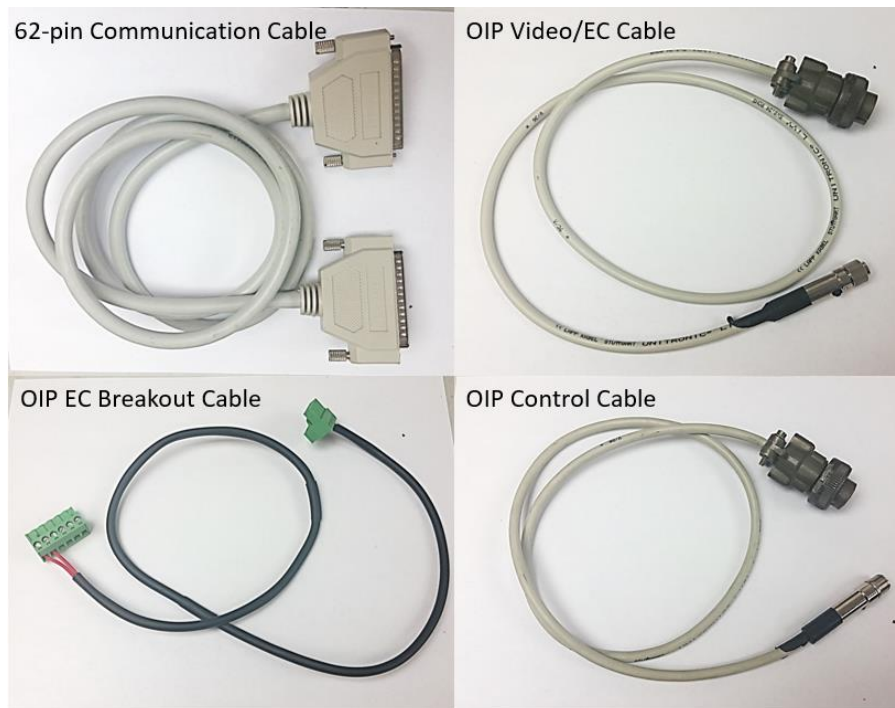

Figure 4.1 OP6100 cables excluding USB cables
2. Connect the FI6000 to the OP6100 using the 62-pin communication cable inserted into the acquisition port of each instrument. See figure 4.1 for the OP6100 cables.